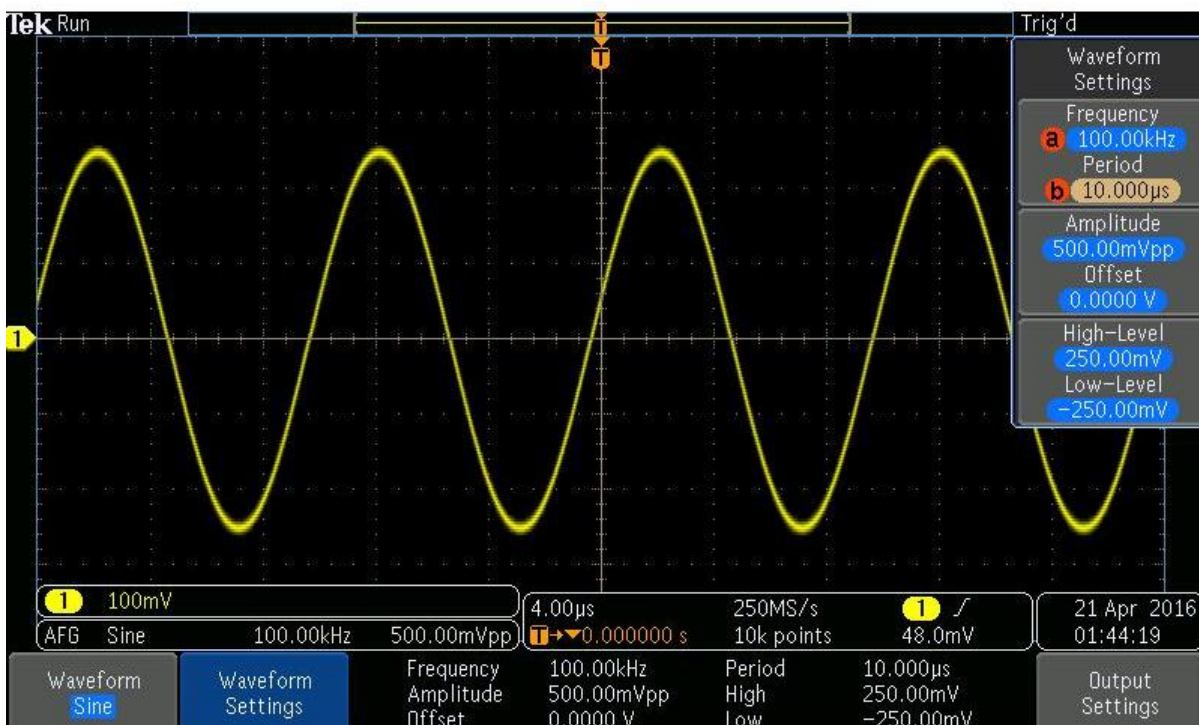

Figure 7
5. Press Waveform settings to access frequency, amplitude and levels. (See figure 7)